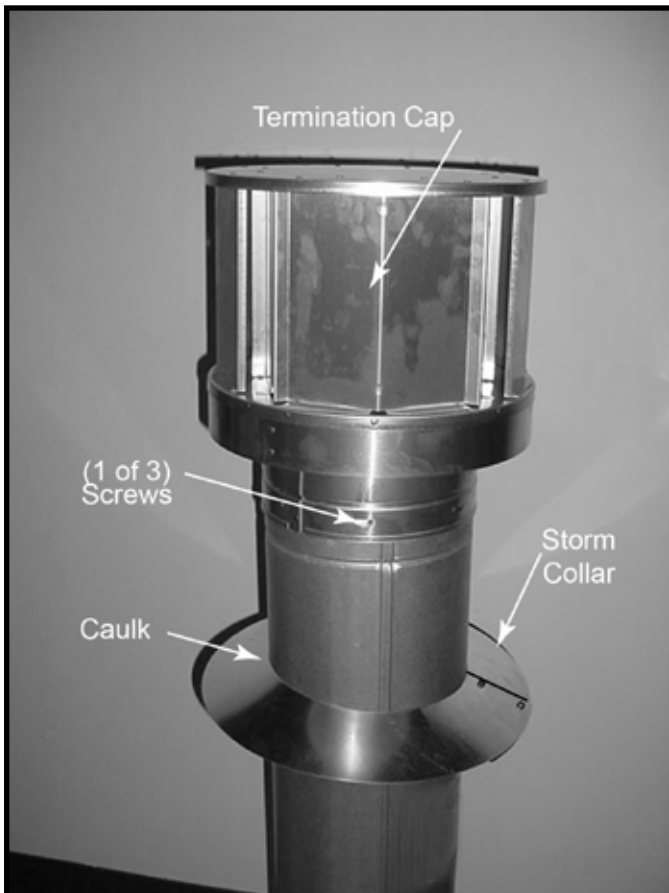

Figure 7.12
- Seal around the top of the storm collar. See Figure 7.12.
- Secure the cap by driving three self-tapping screws (supplied) through the pilot holes in the outer collar of the cap into the outer flue of the pipe. See Figure 7.12.